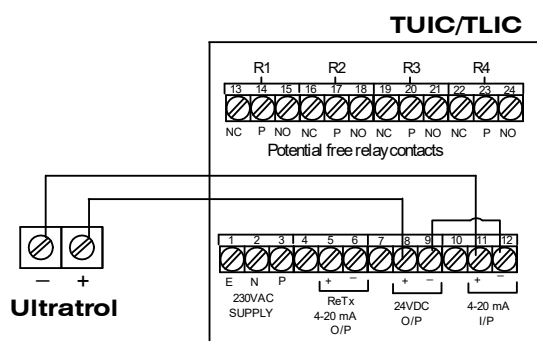

Fig 10
- Refer figure 10 & 11 for wiring of transmitter to Techtrol Indicator Controller (TUIC/TLIC) and Loop Powered Indicator (LP-Cator)